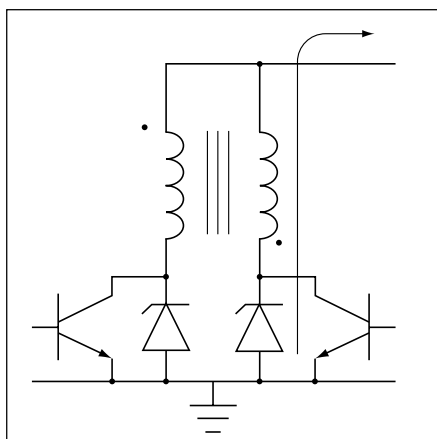

Figure 15. Power return turn-off circuit
**Power return T O C for unipolar drive (figure 15)**